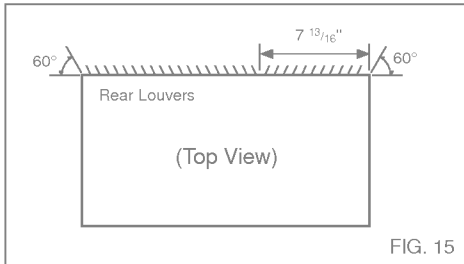

FIG. 15
- Redirect the louvers at the back of the wall sleeve to 60° angle as shown in the FIG 15. The use of pliers is recommended.